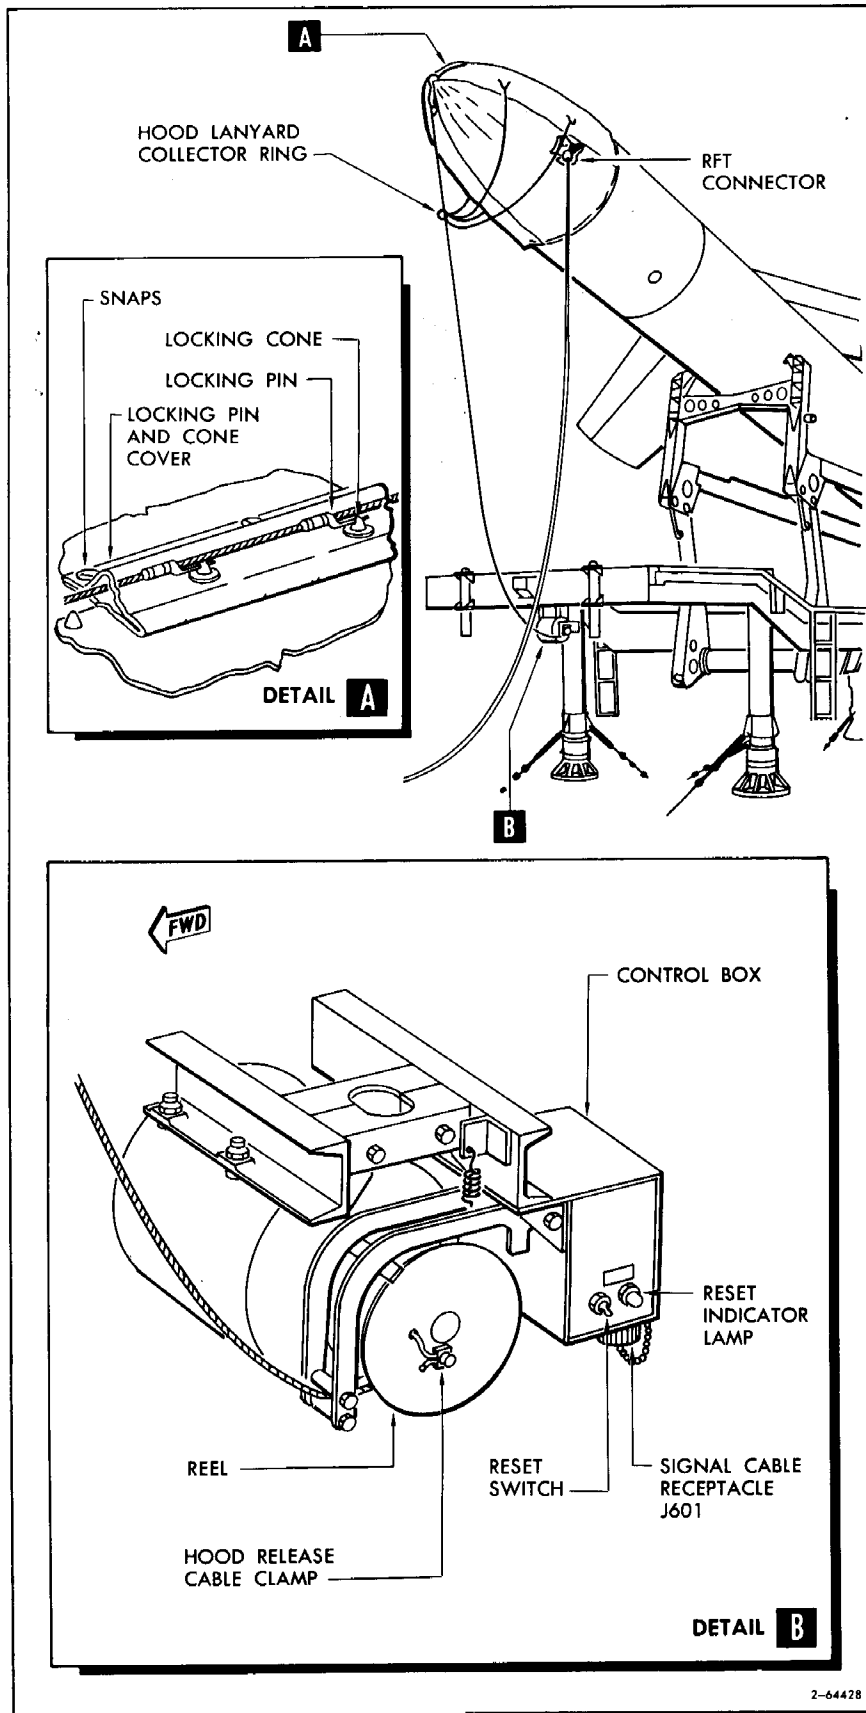

Figure 3-16. Installing RF Hood and Reel Motor
- 3-49. REMOVING RF HOOD. (See figure 3-16.)
- 3-50. INSTALLING RF HOOD. (See figure 3-16.)